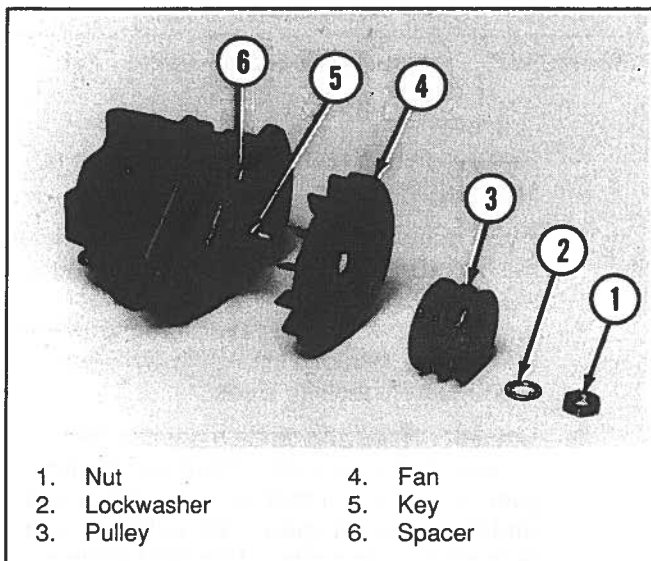

Figure 6-99. Removing Pulley
11. Remove nut, lockwasher, pulley and fan. Use an old oversize V-belt or protective jaws to protect pulley (See Figure 6-99).